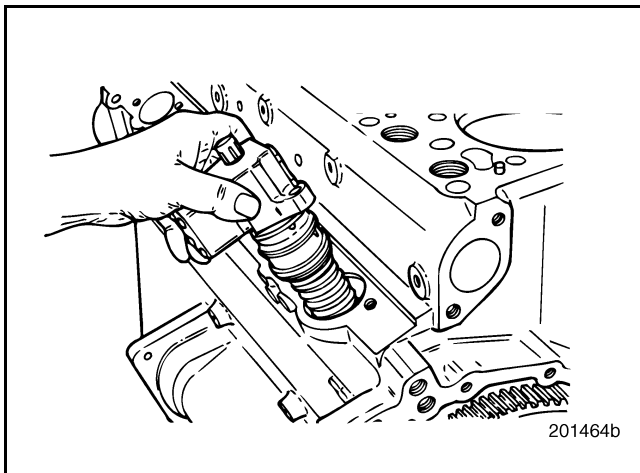

Figure 449 — Unit Pump Installation
2. Generously lubricate EUP O-rings with clean engine oil and install the EUP into the cylinder block (Figure 449).